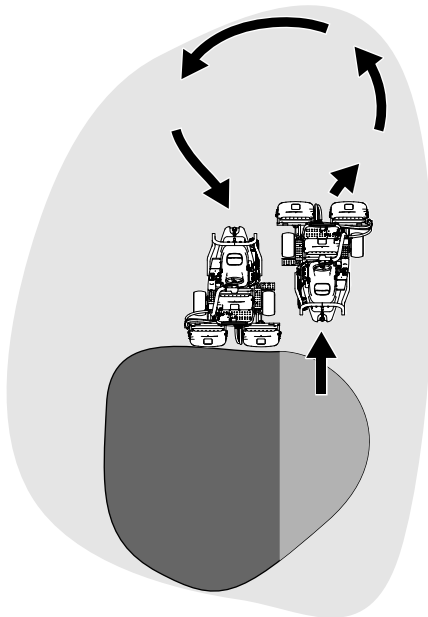

Figure 30
- To cut down on operating time and to ease the lineup for the next pass, momentarily turn the machine in the opposite direction, then turn it in the direction of the uncut portion. This movement is a tear-shaped turn (Figure 30), which quickly lines the machine up for your next pass.